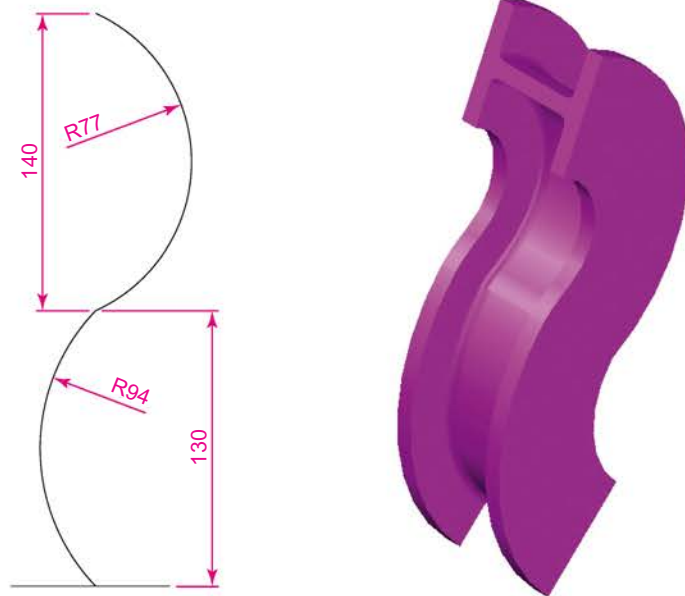

Fig. 9.36 Example – Sweep
EXAMPLE – SWEEP (FIG. 9.36)
2. Change to the **Front** view, and construct a pline as shown in Fig. 9.36 as a path central to the outline.
The result is shown in Fig. 9.36.